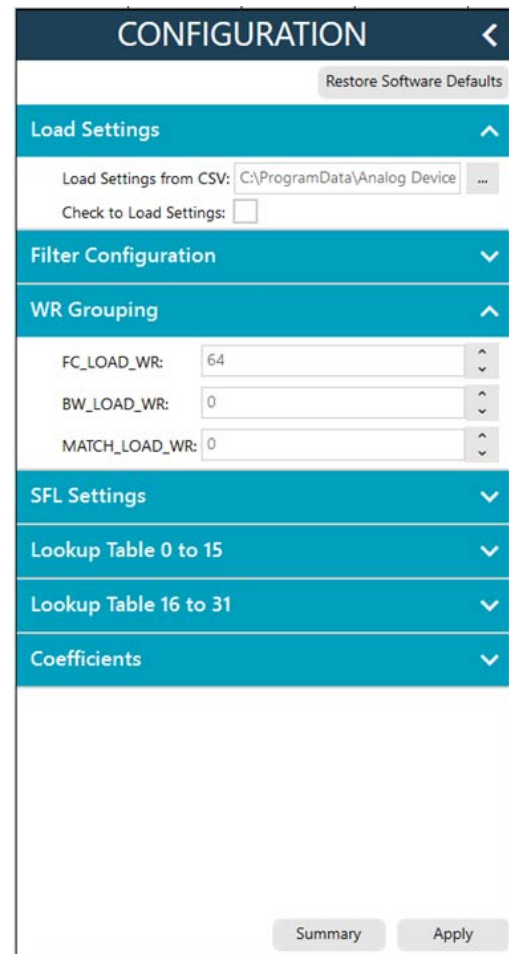

Figure 11. ADMV8505 CONFIGURATION Section
7. Use the **CONFIGURATION** section (see Figure 11) in the ACE software to initialize the chip. By default, the **ADMV8505_Coefficients_Bandwidth_Nominal.csv** file is loaded into this section. Click **Apply** to send the default settings to the chip and to allow the main diagram user controls to become editable.
3. Click the ... button next to **Load Settings from CSV** to select which .csv file to load (see Figure 11).